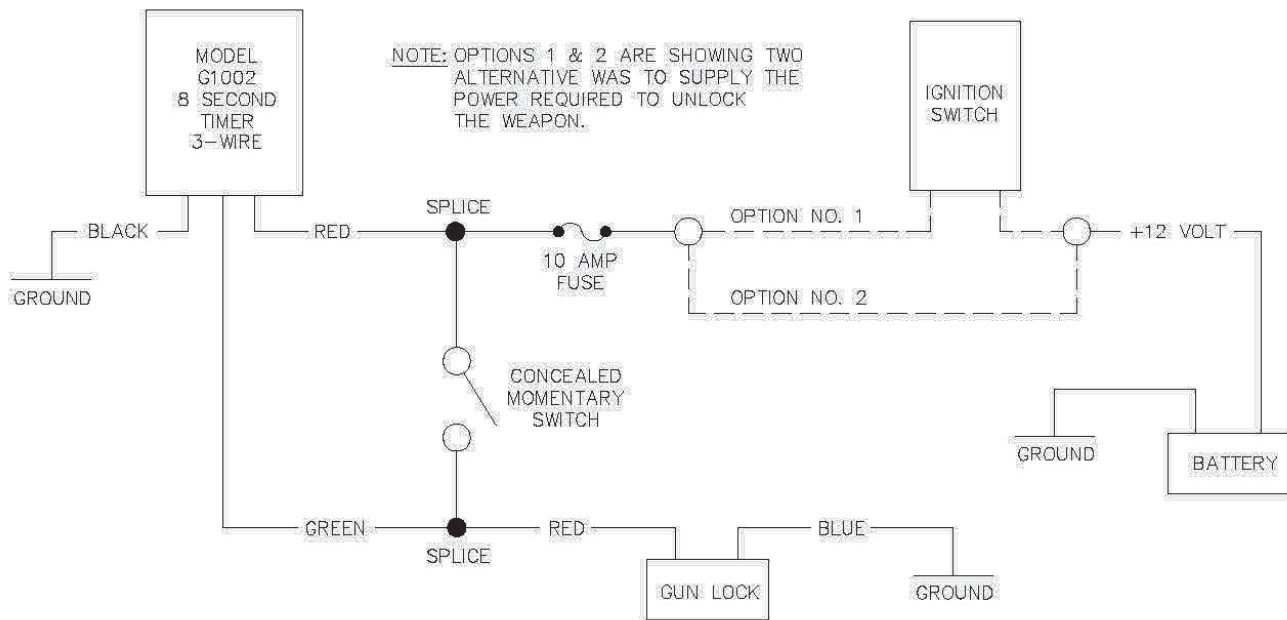

Fig. 4
- B. Connect the gun lock wiring as shown in the diagram below. (Fig. 4)